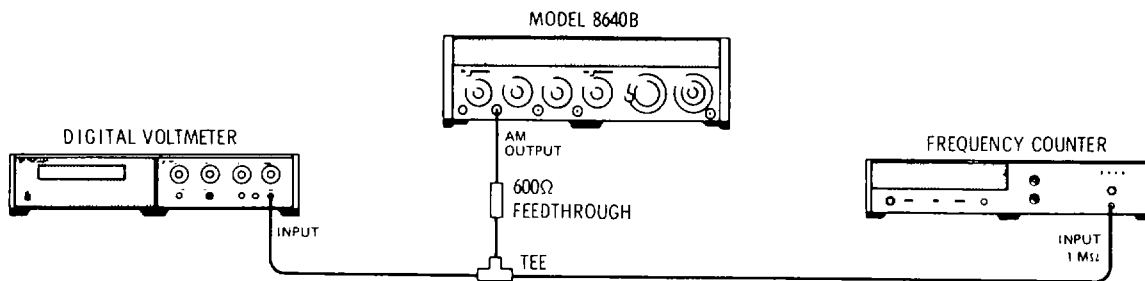

Figure 4-16. Internal Modulation Oscillator Test Setup.
- Connect equipment as shown in Figure 4-16 after setting Signal Generator's controls as follows: